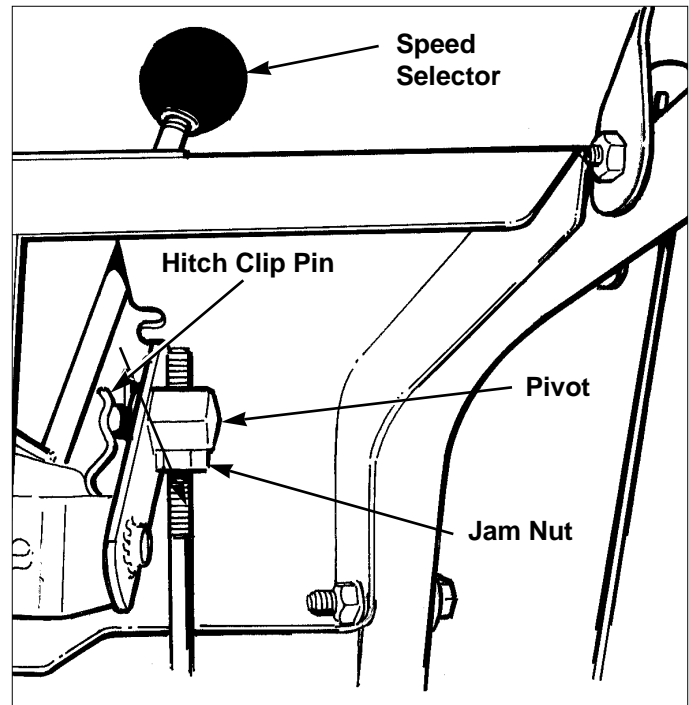

Figure 17. Speed Selector Pivot Adjustment
1. Loosen pivot jam nut to permit pivot adjustment (Figure 17).